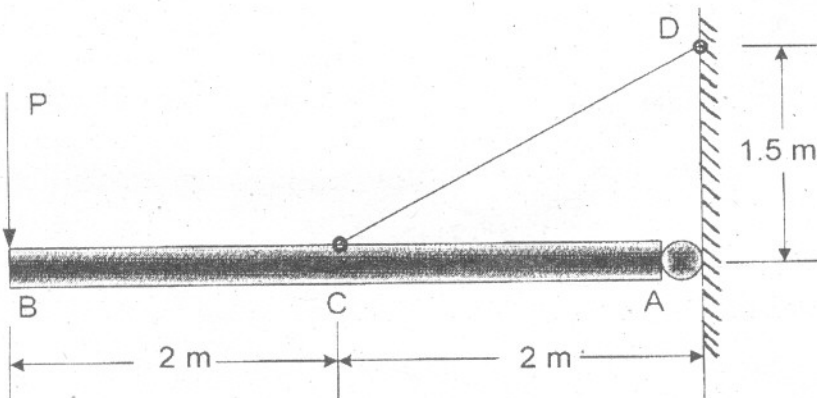

Fig. 2 (a)
2. (a) A rigid bar AB is hinged to a vertical wall and supported horizontally by a tie-bar CD as shown in Fig. 2 (a). The tie-bar has cross-sectional area of 50 mm^2 and its allowable stress in tension is 150 N/mm^2 . Find the magnitude of the load P and the corresponding vertical deflection δ_B of point B. [8]